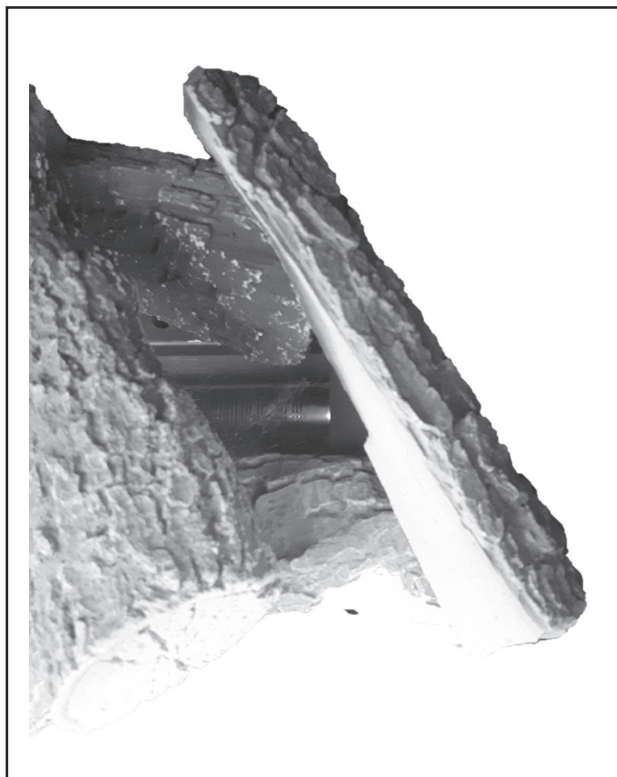

Fig. 8
8. Place Log '8' so that it is resting on Log '2' and to its rear on Log '1' as shown in fig.8.
Note: Ensure that there is an even gap maintained between log '7' and log '8' as shown in fig.8.